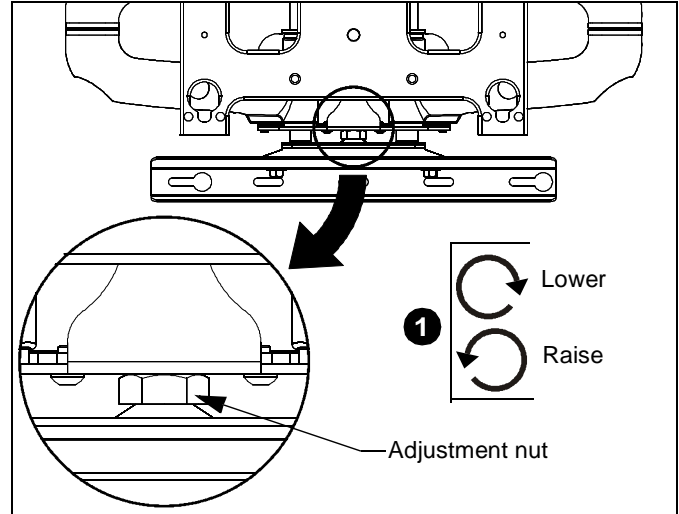

Figure 4
1. Check PNR for the desired height. If needed, use the adjustment wrench (E) to adjust the PNR height. (See Figure 4)